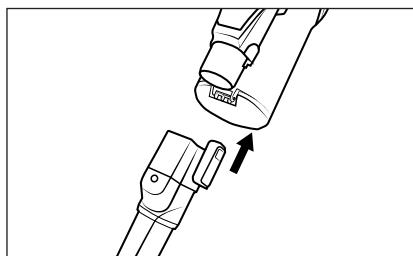

Fig. 14
- ◆ Push the accessory onto the suction pipe ③ or onto the suction opening of the appliance until it clicks into place (see Fig. 14). Make sure that the locking mechanism is in the correct position.